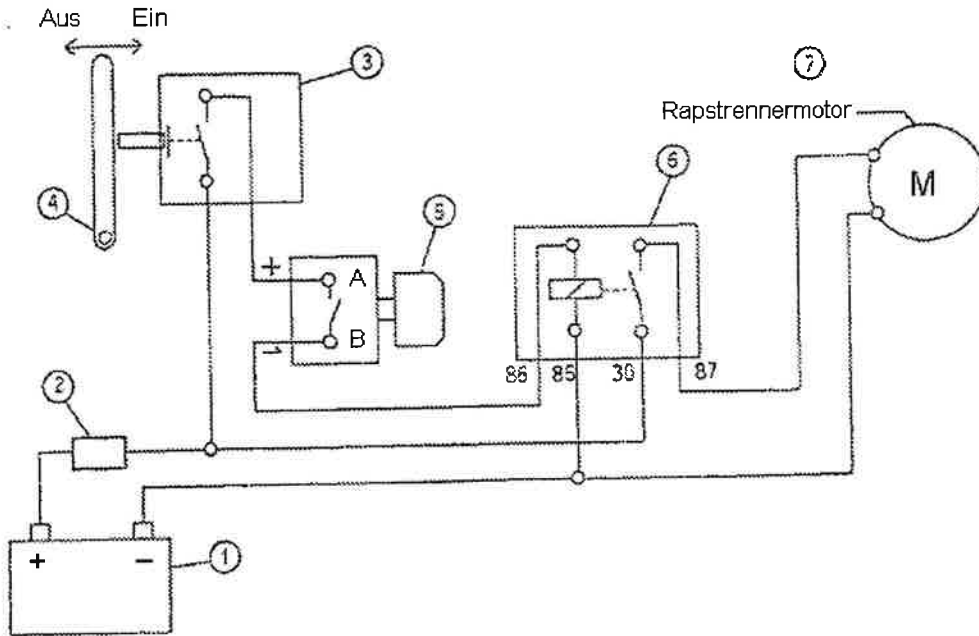

figure 2
Lay the electric cable, with a minimum cross section of 6 mm², as shown in figure 2. If you wish to use two electric rape cutters, the cabling should be duplicated.
- when the cutting table is shut down, the oil supply is stopped by switching off a solenoid valve ⑧. The solenoid valve must be switched
⇒ by a touch-sensitive switch ③ which is pressed by the switch lever ④, see figure 2